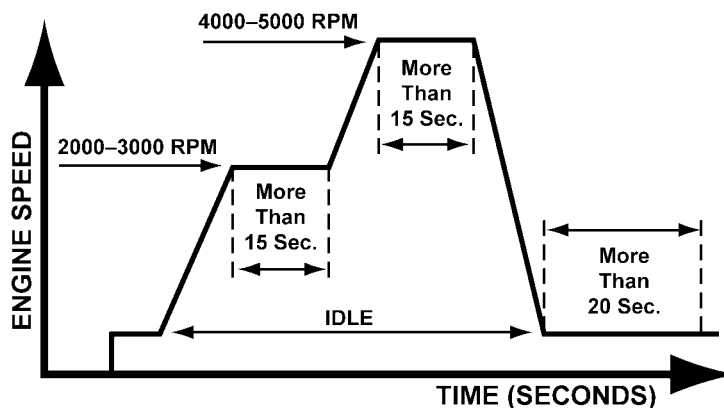
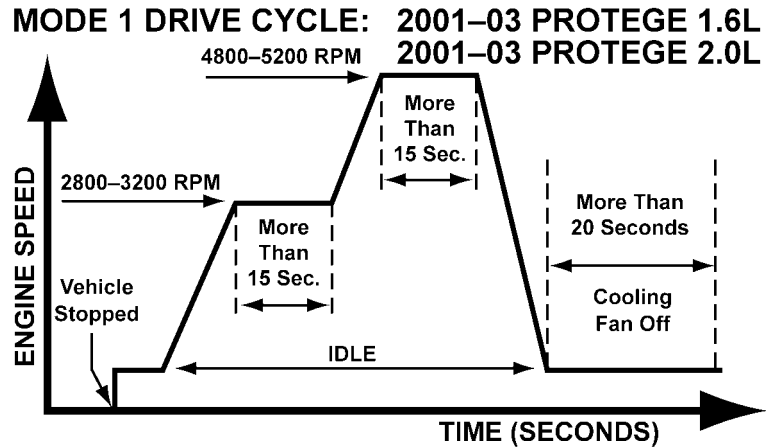

Figure MA000-1
Figure MA000-8
5. Carry out no-load racing at the specified speed for each model. Race the engine for more than 15 seconds at each time. Refer to Figure MA000-1 through Figure MA000-8 for proper engine speed for the model being tested.